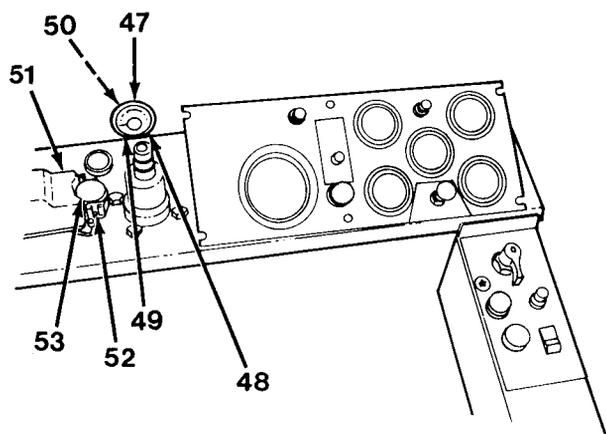

Figure 17-7
20. Removal of speedometer (47): Remove two screws (48) and lockwashers (49). Slide case down wires (50, Figure 17-7). Tag and remove wires.
21. Removal of turn signal (51): Tag and disconnect wires (52) and remove two retaining screws (53) and turn signal (51).